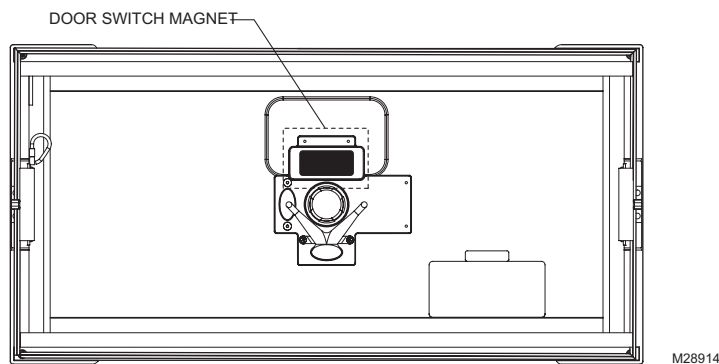

Fig. 16. Door Switch Magnet
- a. Attach the Honeywell Enhanced Air Cleaner door to the cabinet. A magnet in the door (see Fig. 16) is used to activate a safety switch in the power supply when the door is installed. The power supply will not energize the air cleaner unless the safety switch is activated.
NOTE: A magnet in the door (see Fig. 16 on page 19) is used to activate a safety switch in the power supply when the door is installed. The power supply will not energize the air cleaner unless the safety switch is activated.